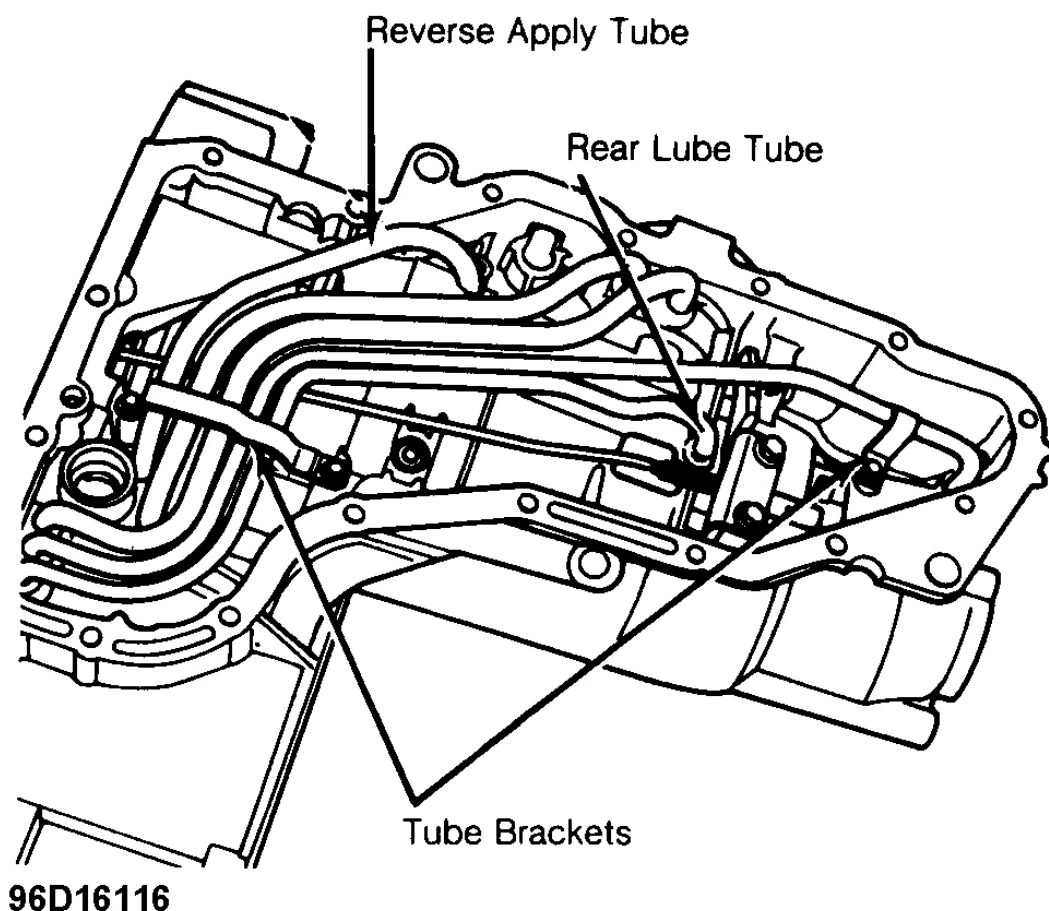

Fig. 10: Oil Tube Locations
18. Remove tube retaining bracket bolts and brackets. If necessary, use Tube Remover (T86P-70001-A) and a slide hammer to remove lube tubes. Tubes are retained with Loctite. See **Fig. 10** .